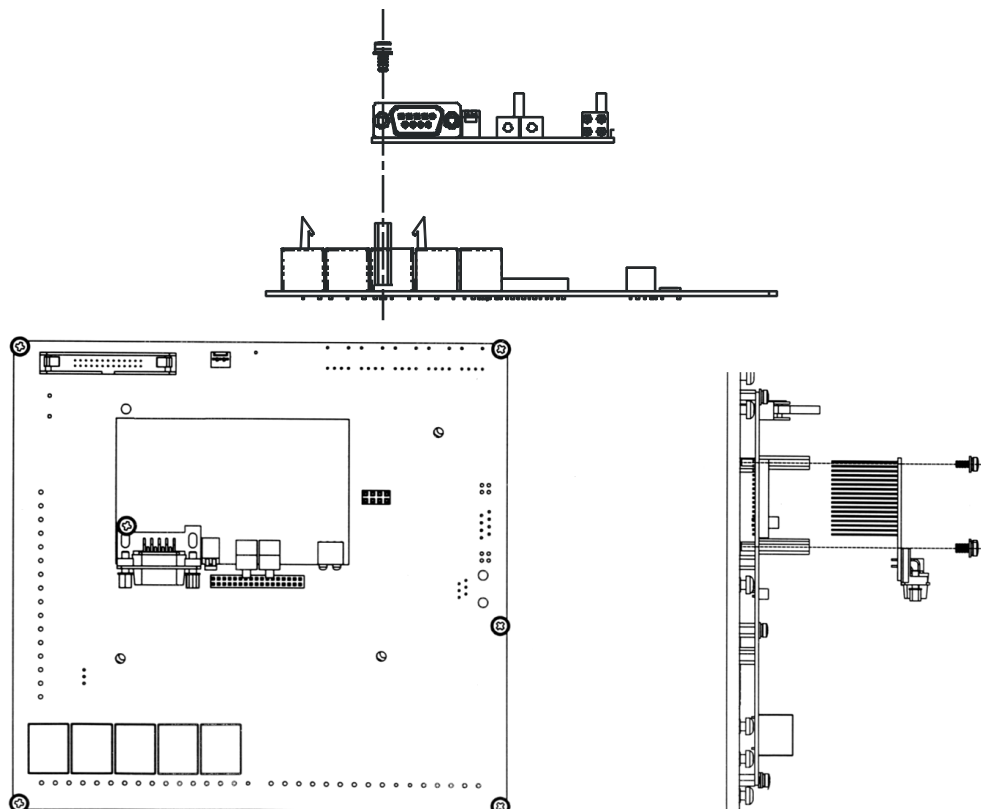

Figure 9.1: Fieldbus electronic board installation
3. Carefully fit the male XC140 connector into the correspondent MVC4 connector. Verify the exact coincidence of all the XC140 connector pins (Figure 9.1 on page 9-1).